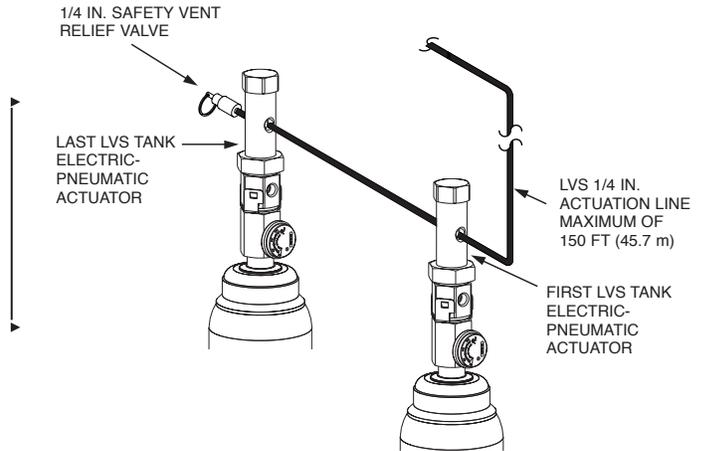

FIGURE 5-14
- remote actuator(s) to electric-pneumatic actuator(s) located on each LT-A-101 and/or LVS expellant gas cartridge. See Figure 5-14.